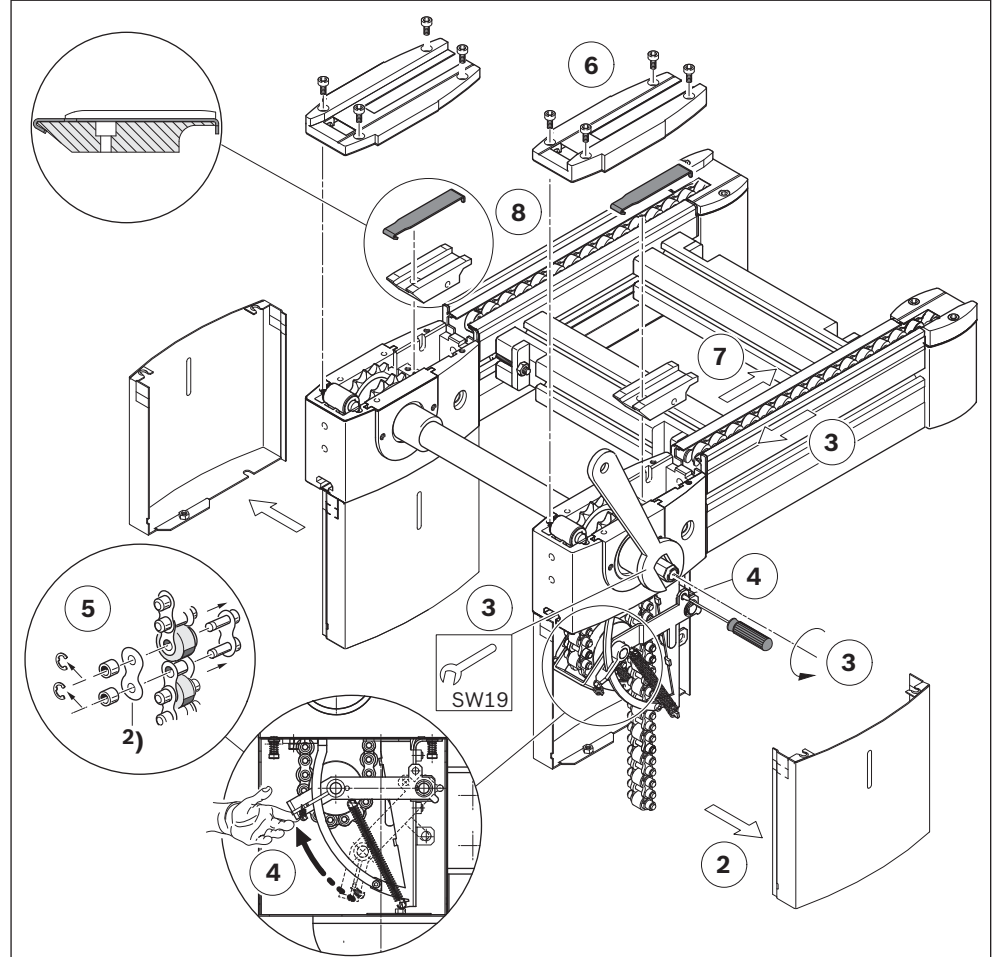

Fig. 13: Assemble acceleration element (1/2)
- ³⁾ BS..., reversible: unlatch the chain tensioner by lifting the "latches" ⁴⁾ Fig. 13, pos. 4.